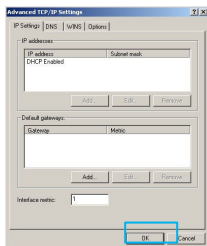

Figure 5
5. The <Advanced TCP/IP Settings> dialog box appears. At the [IP Settings] tab, check that the IP Address is set to Enable DHCP. (Figure 5)